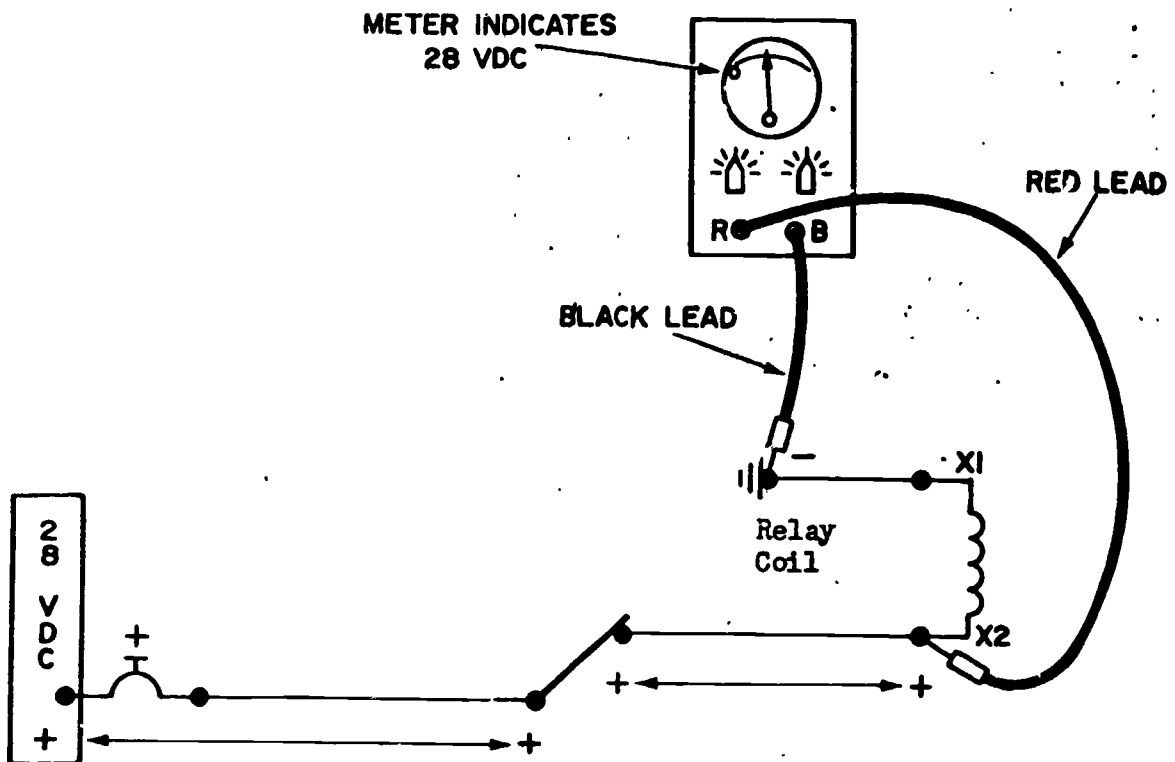

Figure 6.
e. Let's take another reading of this circuit in figure 6. Take a reading from X2 of the relay to the ground point. Note in figure 6 how the meter leads are connected. The black at the most negative (-) point and the RED at the most positive (+) point in the circuit being measured.
(1) Again the meter will indicate a reading of 28V DC. Because here again there is a difference in potential between the positive (+) and negative (-) sides of the circuit, which is the relay coil (load).